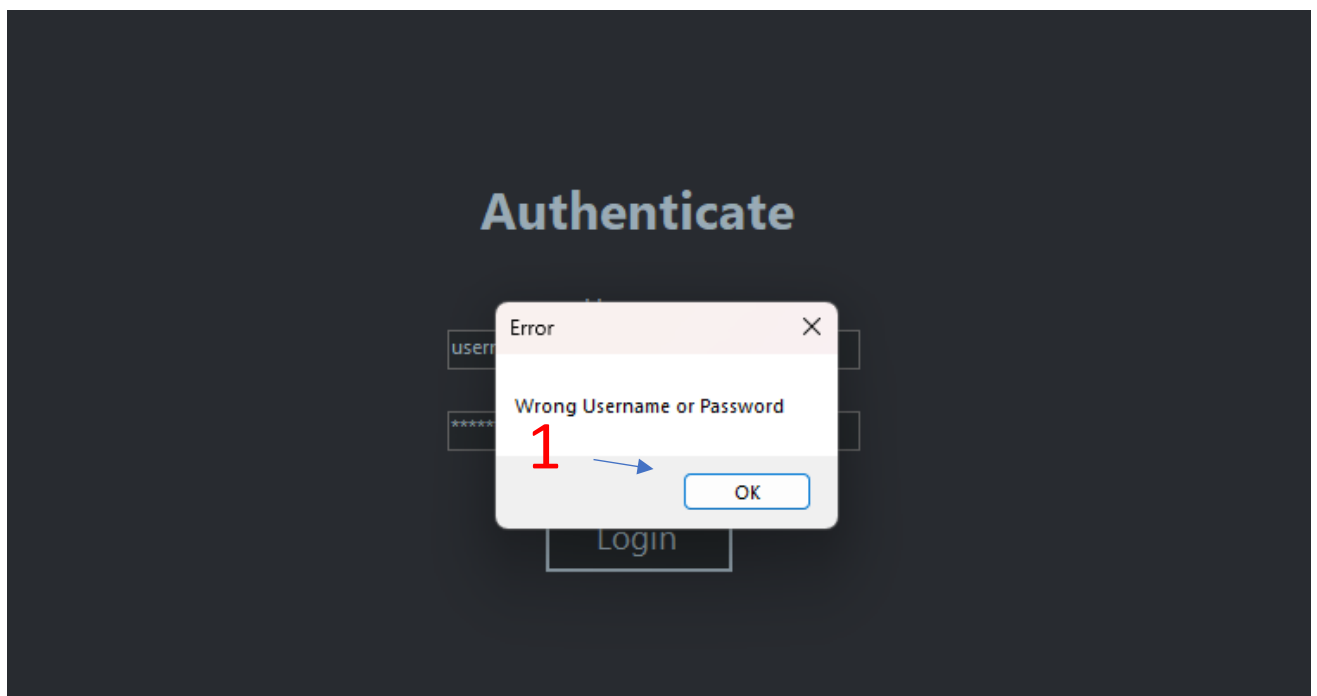

Fig 1.2 Log in failed screen
If the password or the usernames were incorrectly typed, you will get the following pop-up (Fig 1.2). Do not panic! Press the OK (1) button and try again. If you continue on getting errors, contact the administrator of the service.